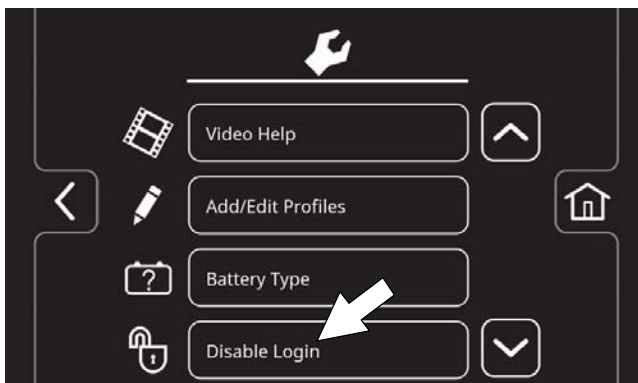

FIG. 185
4. Press the Disable Login button (Figure 185).